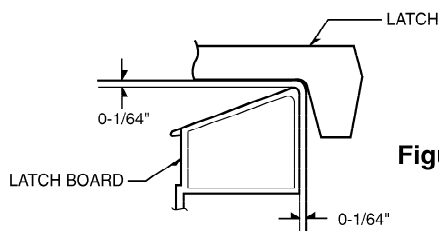

Figure 25
- (2) Close the door tightly and check gaps A and B to be sure they are no more than 1/64" (0.5 mm). See Figure 25 for close-up view of gaps A and B (door latches). If all gaps are less than 1/64" (0.5 mm), adjustment of the latch board may not be necessary. Go to Steps 5 and 6 to check the sequence of the switches.